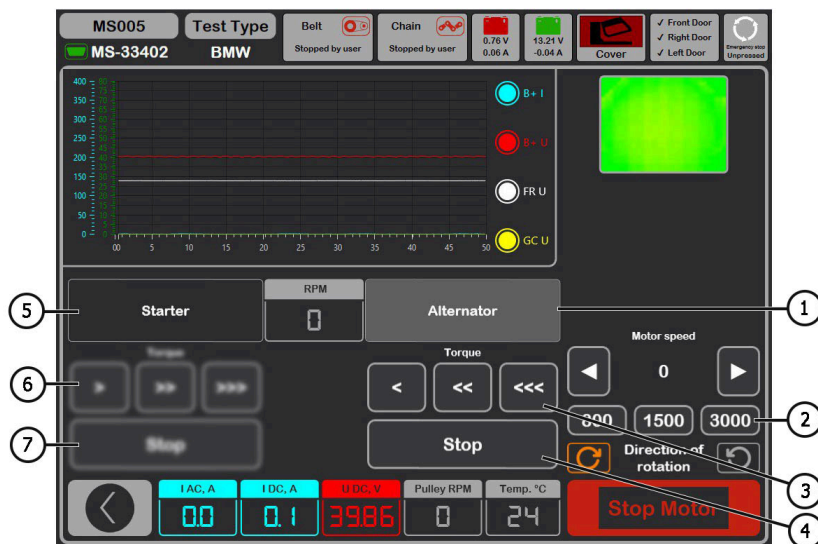

Figure 29. 48 V alternator test mode menu
7.1. In the alternator diagnostic window (Fig. 29), select the “Alternator” mode (see item 1).